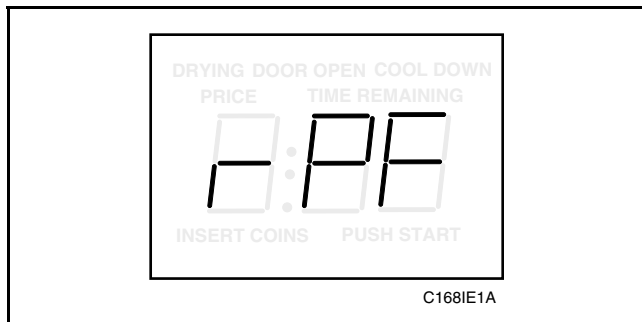

Figure 74
3. Press the LOW TEMP (+) pad **or** the NO HEAT (-) pad to scroll through the programmable options until “rPF” appears in the VFD, *Figure 74*.